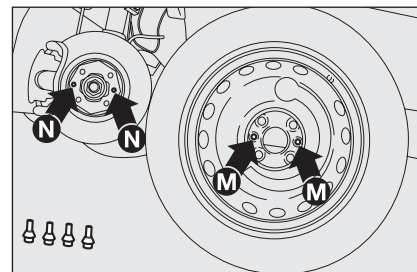

fig. 13
- ☐ Install the spare wheel matching the holes **M-fig. 13** with the corresponding pins **N-fig. 13**;